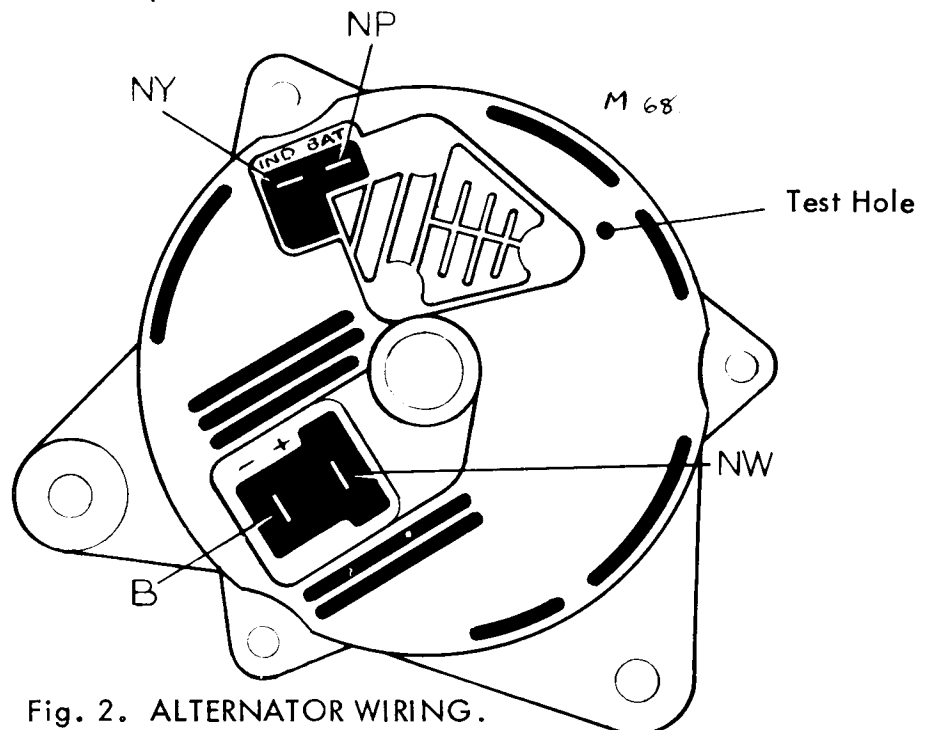

Fig. 2. ALTERNATOR WIRING.
- g. If ampere output is not within 10% of rated output, ground the field winding by inserting a screwdriver into the test hole (See fig. 2.)